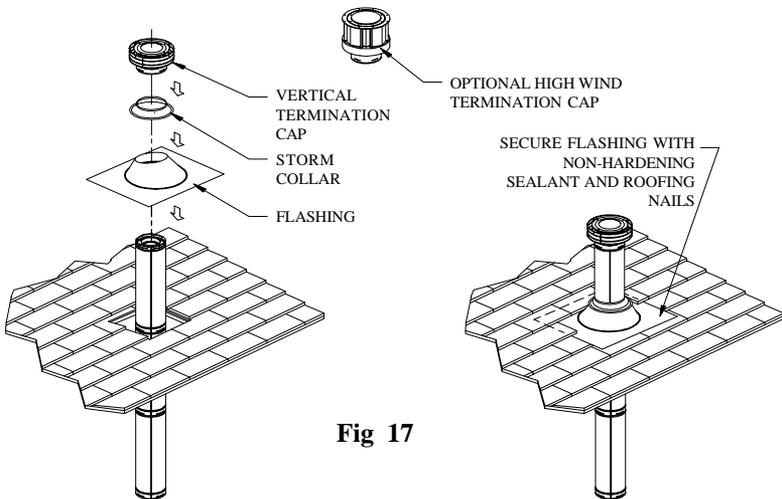

Fig 17
Step 9. Slip the Storm Collar over the Pipe, and push it down to the top of the Flashing, as shown in Fig 17. Use non-hardening sealant above and below the joint between the Storm Collar and the Pipe.
protruding through the roof. Use a non-hardening sealant between the Flashing and the roof to prevent water leakage. Secure the base of the Flashing to the roof with roofing nails. Insure the roofing material overlaps the top edge of the Flashing as shown in Fig 17. Verify that you have at least the minimum clearance to combustibles at the roofline.